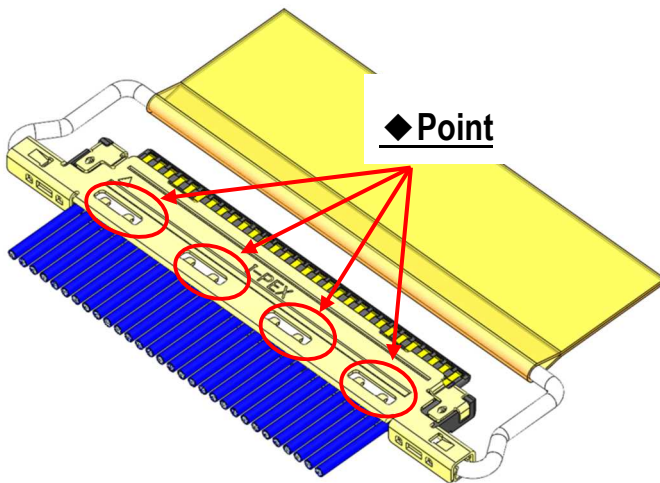

Fig.11 Soldering of SHELL-A and GND BAR
- ③ Soldering SHELL-A ,B and GND BAR with the soldering iron at all designated points is recommended. (Fig.11,12 ◆ point)
※In case of soldering discrete cable, soldering at Fig.11,12 ◆point is impossible.